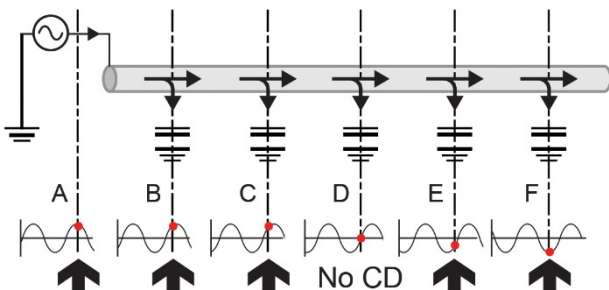

Figure 10.2: CD reset
Figure 10.2 illustrates a buried line with significant capacitance to ground. It illustrates the gradual phase-shift that occurs along the line. The diagram shows a reference point on each waveform. At first, the reference point occurs right on the Peak of a positive half cycle (A). It gradually moves towards the zero crossing point (D) and ends up on the Peak of a negative half cycle (F). The direction has shifted from forwards to backwards. At the intermediate point (D) the current flow cannot be determined. At this point the CD arrows on the RD8100M locator will flash on and off. In the example shown in the illustration, by returning to (C) which is the last point at which a CD reading was achieved, and performing a CD reset, the response at (C) will be equivalent to that of (A).